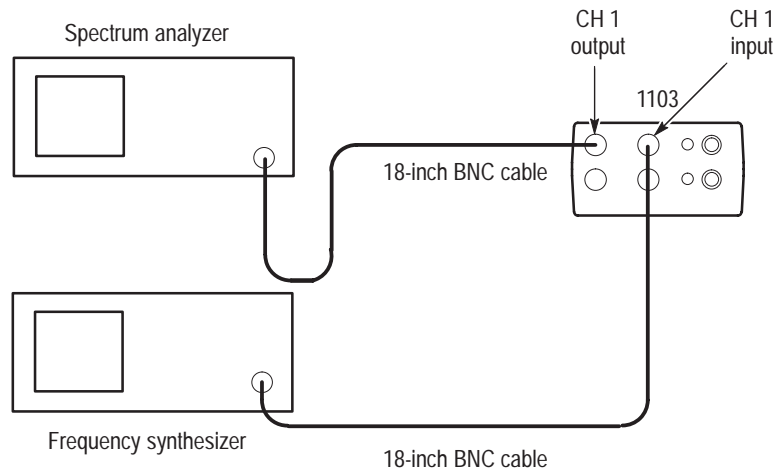

Figure 18: Normalizing the setup
- a. Connect the equipment as shown in Figure 18.
10. Connect the BNC cable from the synthesizer output to the 1103 input as shown in Figure 18.